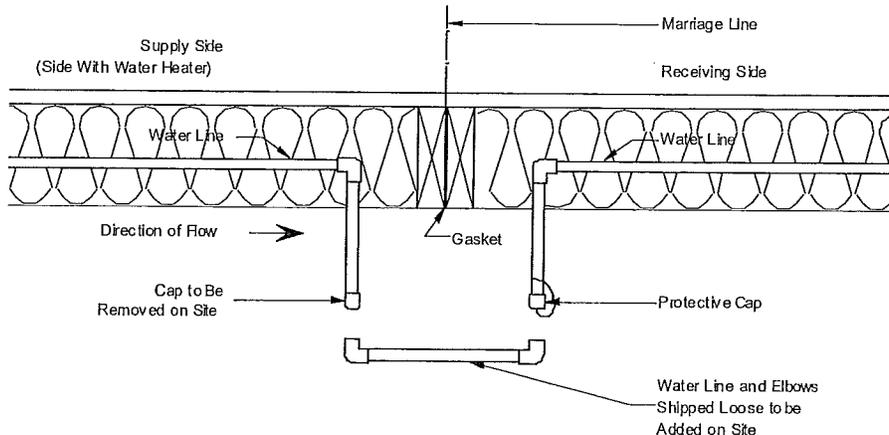

Figure 57. Water line crossover through bottom board
2. **Connect pipes.** Connect threaded water lines using flexible pipe or a rigid connector line (if provided) and connector fittings (do not use lubricants or sealants). Connect non-threaded water lines, pipe, and elbows with cement provided, inserting pipe to full depth of each fitting (Figure 57).